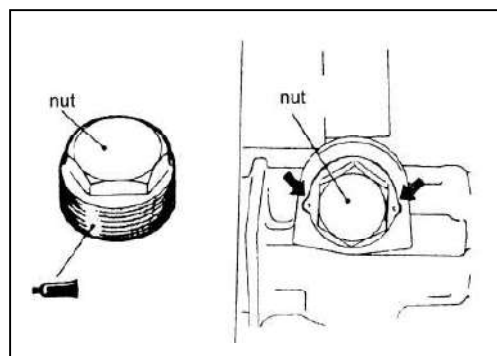

Fig 17-43
9) END PLUG INSTALLATION (See fig 17-43)